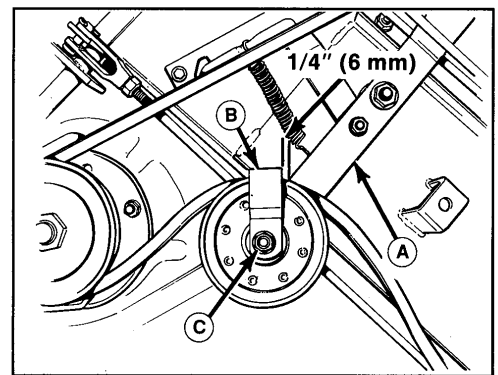

Figure 44. Idler Pulley Belt Guide
The idler pulley belt guide is correctly adjusted when its edge is 1/4 inch (6 mm) from the rear edge of the idler arm (figure 44). If not, loosen the nut (C) and move the belt guide. Tighten the nut and recheck the measurement.